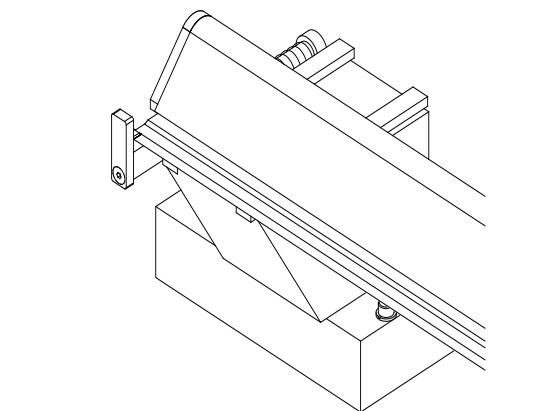
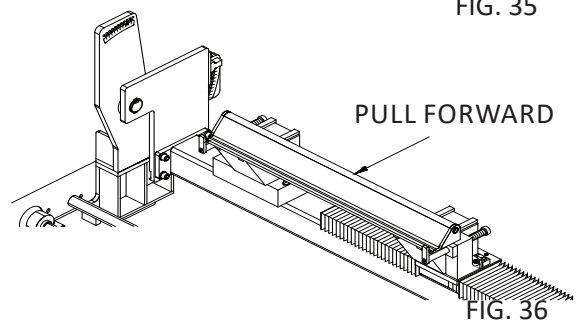

FIG. 35
FIG. 36
3. Position the bedknife so the unworn tips on a used bedknives or the ends of a new bedknife are on the gauge tips. See FIG. 35 Pull the bedknife forward firmly against the gauge tip and then turn on the electromagnets. See FIG. 36.